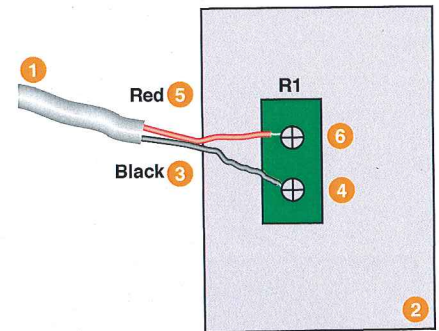

Fig. 3. Wire connections for Input Line Control of controlling instrument.
- Connect the opposite end of the wires (7) to the controlling instrument contact closure or TTL relay (9).
- The instrument used to control the MRA must have one TTL or contact closure output (one event relay). Figure 3 shows wiring the connecting wires (1) from the MRA to the controlling instrument (2) for Input Line Control.
- Connect the black wire (3) from the MRA to the ground terminal (4) of the controlling instrument event relay R1.
- Connect the red wire (5) from the MRA to the control line (6) terminal of the controlling instrument event relay R1.
Input Line Control is used to start or stop the MRA®. The instrument used to control the MRA must have one TTL or contact closure output. Only one event relay is needed. Wiring the connecting wires to the controlling instrument with Input Line Control is shown in Figure 3.